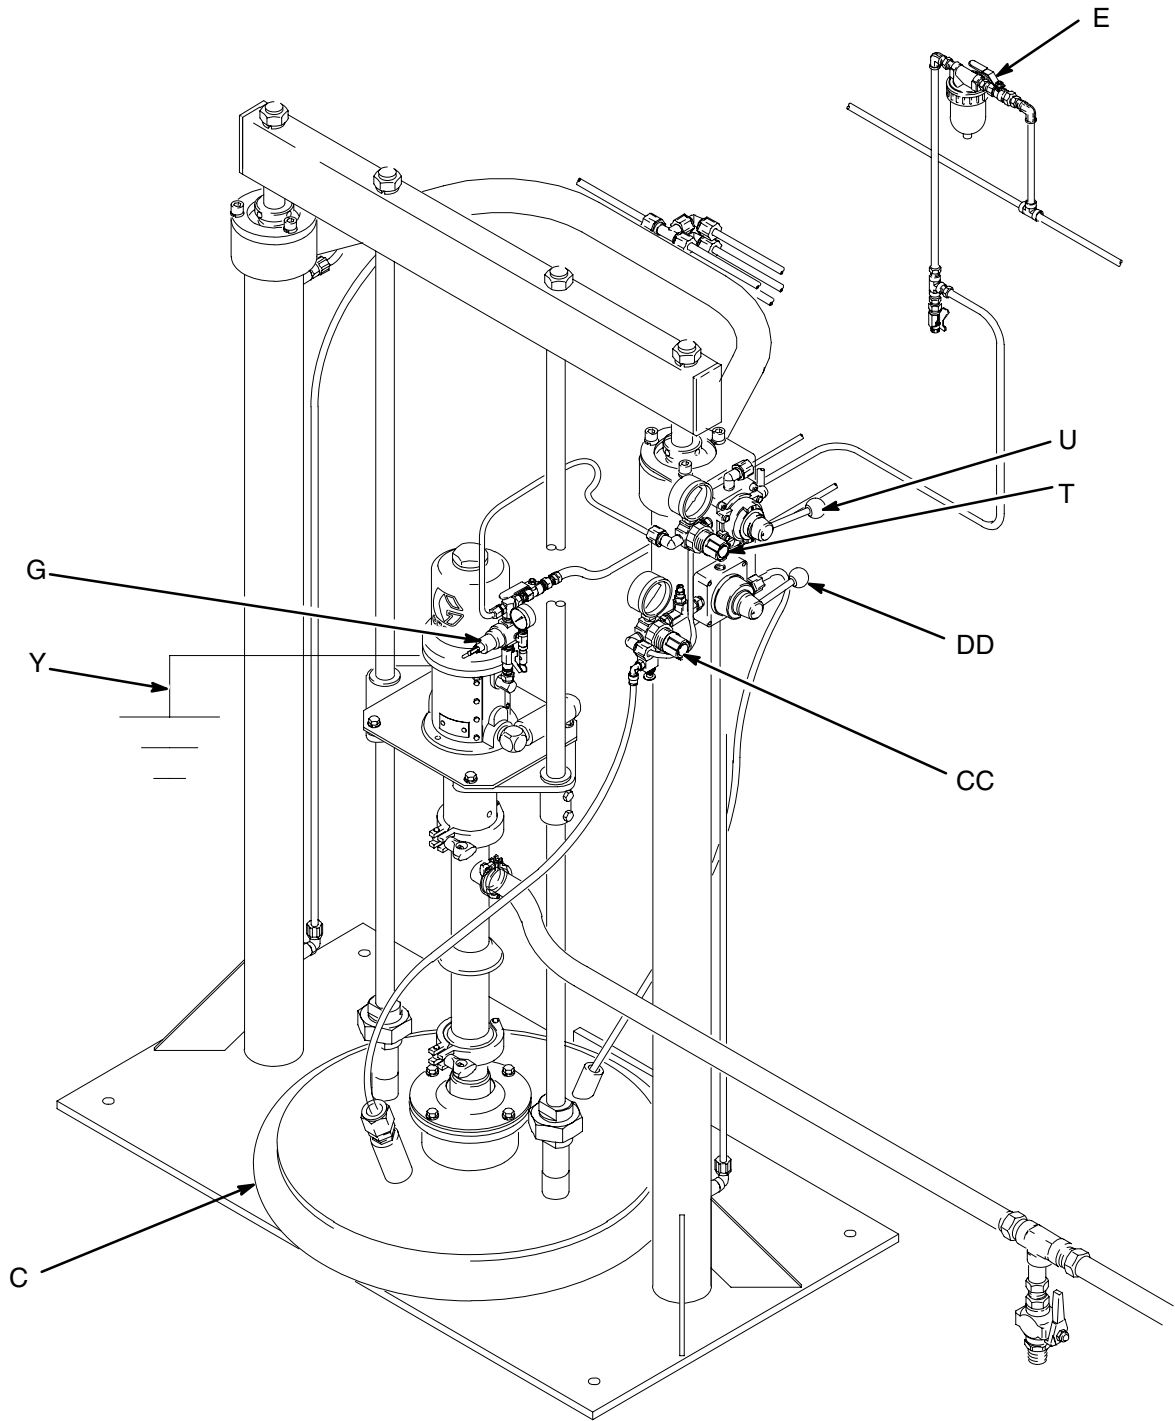

Fig. 2
1. Refer to Fig. 2. Close all air regulators and air valves.
2. Open the main air bleed valve (E) and set the ram air regulator (T) to 40 psi (276 kPa, 2.8 bar). Pull up on the ram director valve (U) handle so the arrow points to RAM UP, and let the ram rise to its full height.
3. Set a full drum of fluid on the ram base, slide it back against the tube stop, and center it under the ram plate (C).
1. Be sure the pump air regulator (G) is closed. Then set the ram air regulator (T) to about 3.5 bar (50 psi). Set the ram director valve (U) to RAM DOWN. See Fig. 2.
3. Keep the ram director valve (U) set to RAM DOWN while the pump is operating.